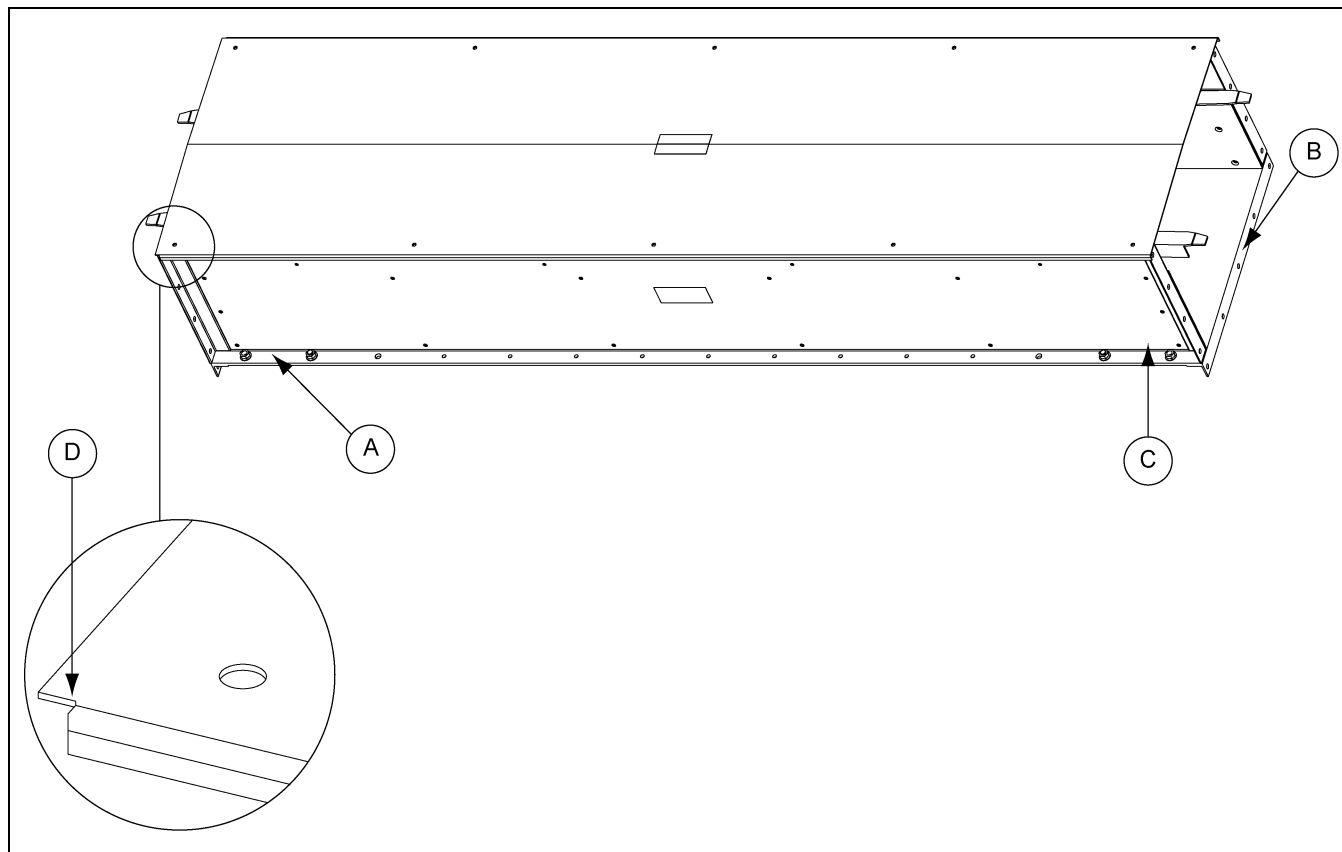

Figure 6I Typical Intermediate Trough Section Assembly with Slide Rail Returns
1. Position cover with notch (D) facing towards head (discharge) end. (See Figure 6I.)